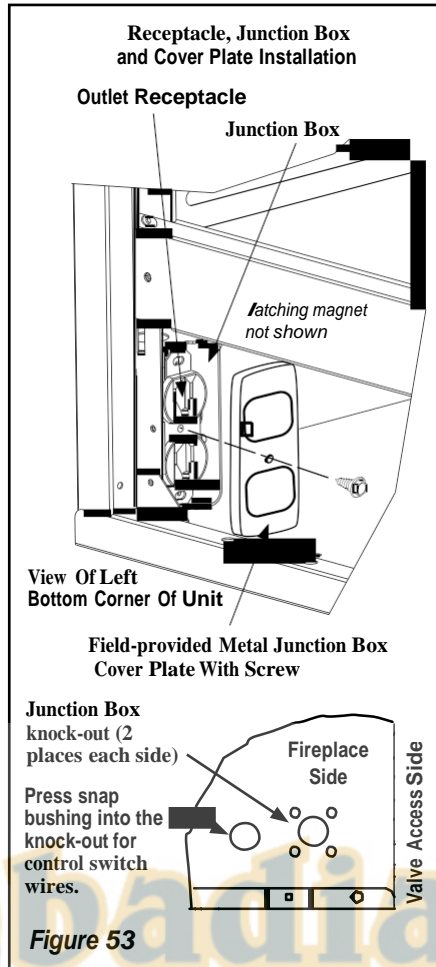

Figure 53
Note: The junction box can be installed in any of the 4 outside corners of the control compartment (outlet installed in front left corner is shown in Figure 53). If an optional blower is to be installed place the junction box to the left of the valve in the front corner.
5. After the receptacle/junction box wiring is complete, install the field-provided metal junction box cover plate (see Figure 53).